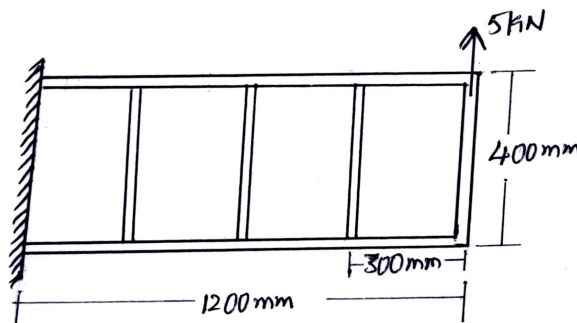

Fig.Q.8(a)
- 8 a. The beam shown in Fig.Q.8(a) is assumed to have a complete tension field web. If the cross-sectional areas of the flanges and stiffeners are 350 mm^2 and 300 mm^2 respectively and the elastic section modulus of each flange is 750 mm^3 , determine the maximum stress in a flange and also whether the stiffness will buckle or not. The thickness of the web is 2mm and second moment of area of a stiffener about an axis in the place of the web is 2000 mm^4 and $E = 70 \text{ kN/mm}^2$. (10 Marks)